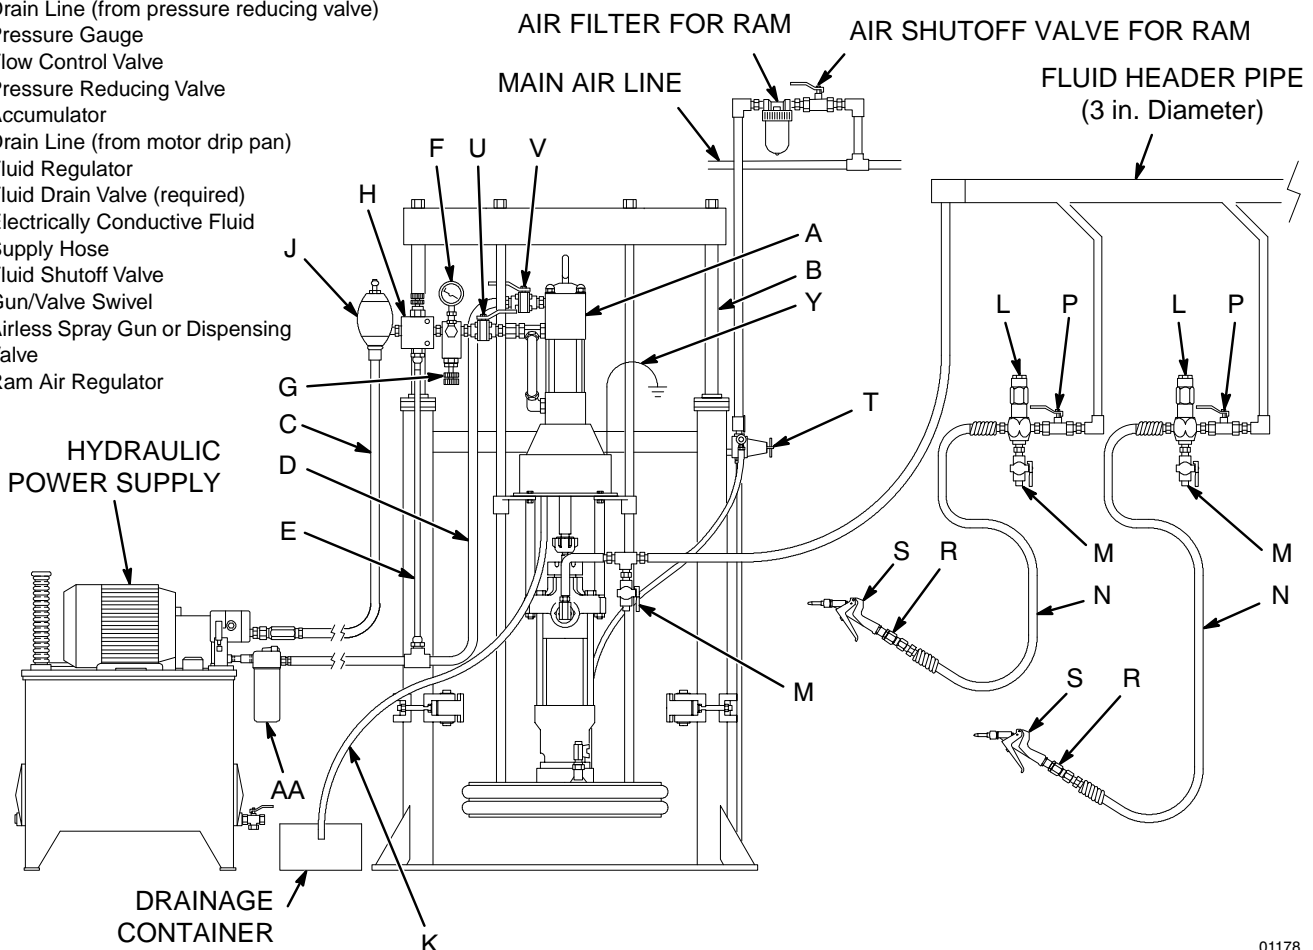

Fig. 4
The Typical Installation shown in Fig. 4 is only a guide for selecting and installing system components and accessories. Contact your Graco distributor for assistance in designing a system to suit your particular needs.
Mount the pump (A) to suit the type of installation planned. Fig. 4 on page 10 illustrates a ram-mounted pump in a multi-gun header system. Pump dimensions and the mounting hole layout are shown on pages 35 and 36.
**On the hydraulic supply line (C)**, install the following accessories in the order shown in Fig. 4, using adapters as necessary:
- **A shutoff valve (U)** to isolate the pump for servicing.
- **A fluid pressure gauge (F)** to monitor hydraulic oil pressure to the motor and to avoid overpressurizing the motor or displacement pump, and **a pressure and temperature-compensated flow control valve (G)** to prevent the motor from running too fast and possibly damaging itself.
- **A pressure reducing valve (H), with a drain line (E)** running into the hydraulic return line (D).
- **An accumulator (J)** to reduce the hammering effect caused by the motor reversing direction.
**On the hydraulic return line (D)**, install the following accessories in the order shown in Fig. 4, using adapters as necessary:
- **A shutoff valve (V)** to isolate the pump for servicing.
- **A filter (AA)** of 10 micron size.
Install the following accessories in the positions shown in Fig. 4, using adapters as necessary:
- Install a **fluid shutoff valve (P)** at each gun drop, to isolate the gun and fluid accessories for servicing.
- Install a **fluid drain valve (M)** near the pump fluid outlet, and at each gun station. The drain valves are required in your system to relieve fluid pressure in the displacement pump, hose and gun (see the **WARNING** at left). Drain valves at the gun stations may be mounted in the base of a **fluid regulator (L)**, using an adapter.
- **A fluid regulator (L)** controls fluid pressure to the gun/valve, and dampens pressure surges.
- **A gun or valve (S)** dispenses the fluid. The gun shown in Fig. 4 is a high pressure dispensing gun for highly viscous fluids.
- **A gun swivel (R)** allows freer gun movement.
Refer to Fig. 4 on page 10. Check the hydraulic fluid level before each use, and add fluid as necessary. Make certain that the supply line shutoff valve (U) and the return line shutoff valve (V) are closed, then start the hydraulic power supply.